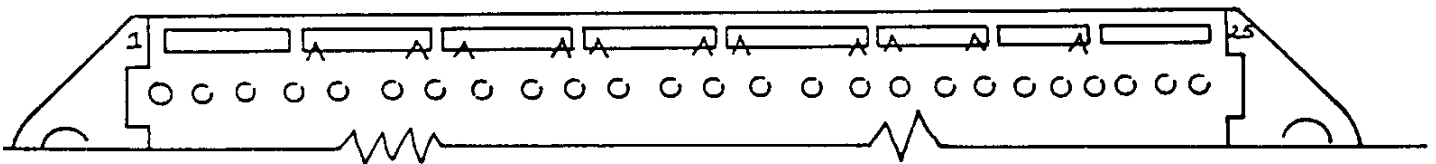

Figure 5.15- Rear View of Alignment Housing A
1. Drill size #44 $3/32"$ 11 places and label as shown in Figure 5.16. Notch as shown in Figure 5.15